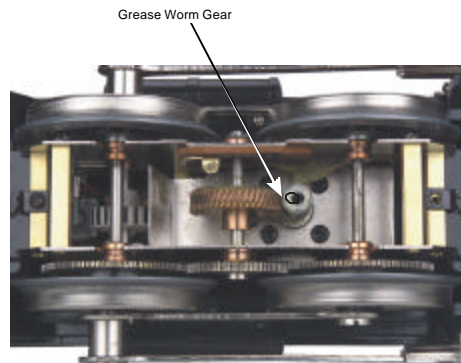

Figure 8: Exposed Drive Gears
2. As seen in Figure 8, once the motor chassis cover plate has been removed, access to the gearing is available. Lightly coat the motor worm gear and bronze drive gear (inside the drive train) with grease.